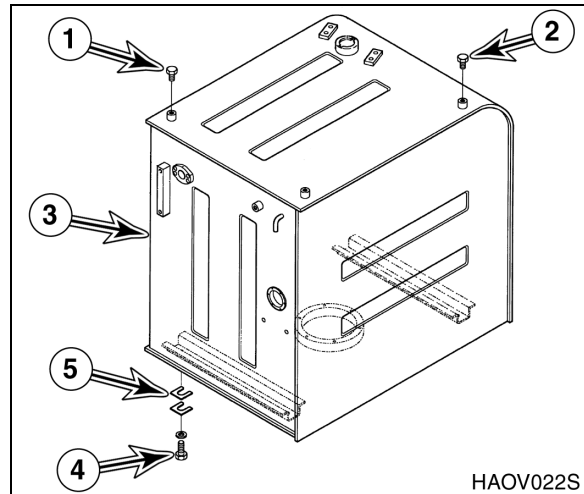

Figure 12
1. Install two 12 mm eye bolts in threaded holes at top surface of tank (1 and 2, Figure 12). Using a suitable lifting device, sling eye bolts.
2. Set fuel tank (3, Figure 12) into position. Install four bolts and washers (4) figure tight, to secure tank (3) to frame.
3. Install shims (5, Figure 12) as needed to prevent tank (3) from rocking or stress from mounting bolts (4).
4. Tighten mounting bolts (4, Figure 12) after shims are installed.